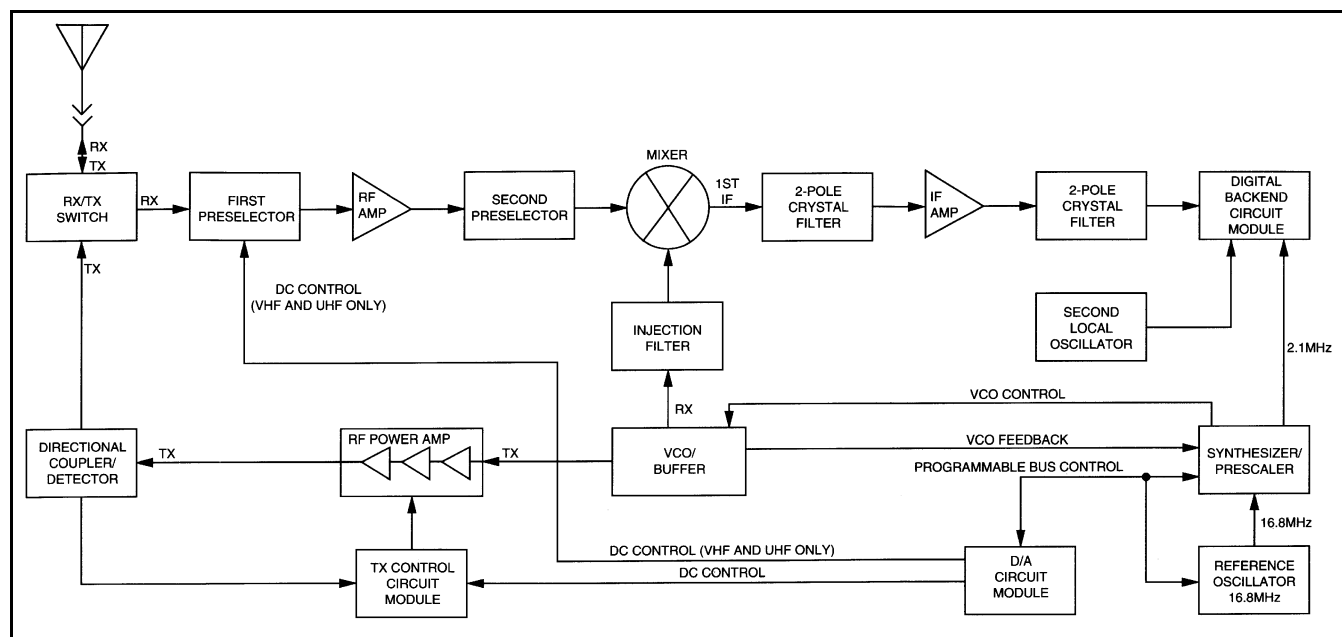

Figure 5-4 RF Board Block Diagram (Version A/B)
The receiver front end consists of a preselector, an RF amplifier, a second preselector, and a mixer (see Figure 5-4). With VHF and UHF models, both preselectors are varactor-tuned, two-pole filters controlled by the control logic. With 800 MHz models, these filters are fixed-tuned. The RF amplifier is a dual-gate, gallium-arsenide based IC. The mixer is a double-balanced, active mixer coupled by transformers. Injection is provided by the VCO through an injection filter. Refer to Table 5-1 for local oscillator (LO) and first IF information.